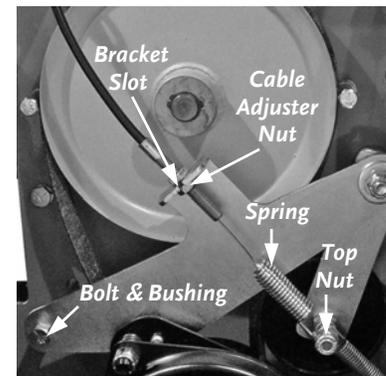

Figure 20
6. Remove the Bolt on the Bracket (**Figure 20**). Also, remove the Bushing on that Bolt and the Nut (Top Side of the Frame).
7. Remove the Top Spring Retainer Nut and then lift the Spring off the Bolt (**Figure 20**).
8. Using two (2) 1/2" Wrenches, remove the lower Cable Adjuster Nut and slide the Adjuster out of the Bracket removing the Cable out through the Slot in the Bracket (**Figure 20**).